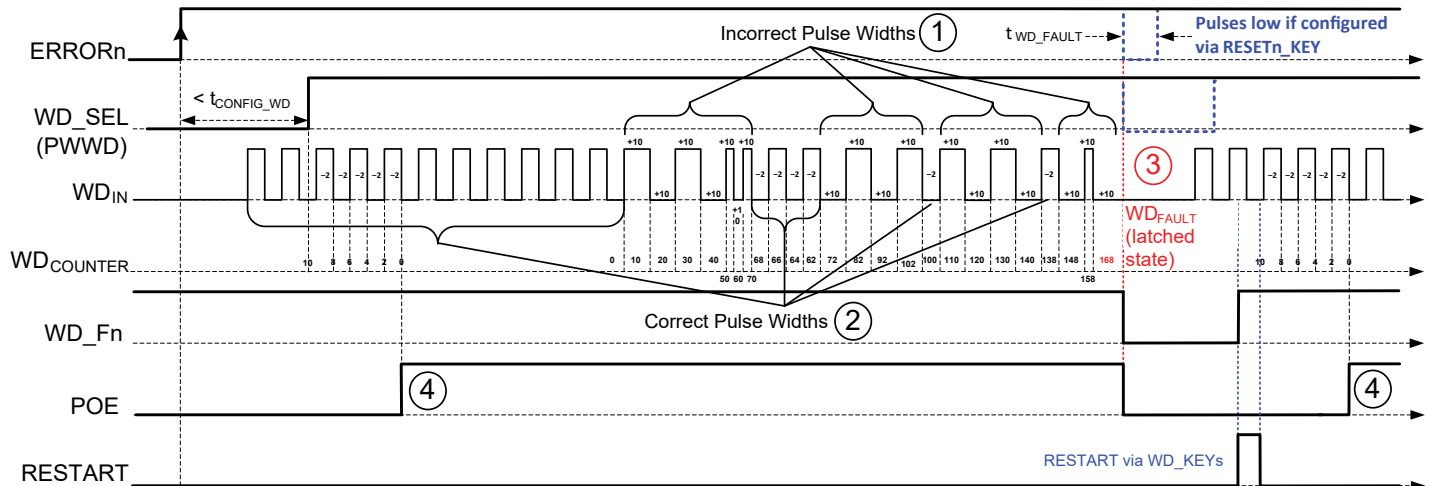
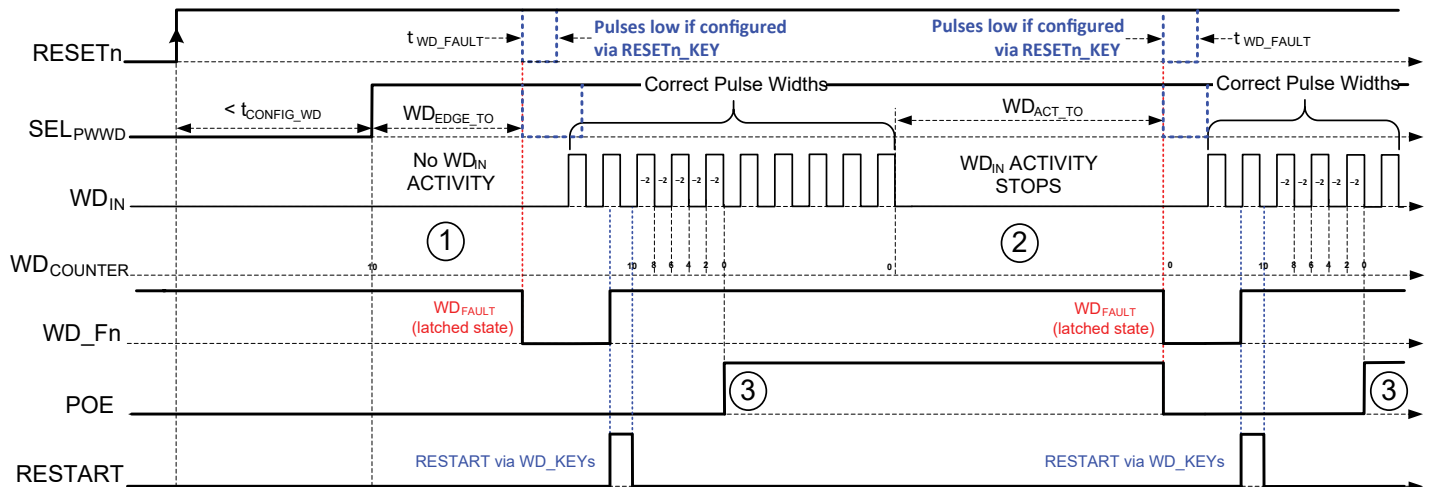

Figure 21: Watchdog (WD) operation with both correct and incorrect pulse widths
Figure 22: Watchdog operation with faults
The pulse width watchdog circuit monitors an external clock applied to the WD_IN pin. This clock should be generated by the primary microcontroller or DSP. The pulse-width window watchdog (PWWD) measures the time between two clock edges, either rising or falling. So the watchdog effectively measures both the high and low pulse widths, as shown in Figure 21. By default, the nominal WD_IN pulse width (PWWD_PW) is set to 1 ms, but can be modified to 0.5, 1.5, or 2 ms via SPI.
If an incorrect pulse width is detected, the watchdog increments its fault counter by 10 (default). If a correct pulse width is detected, the watchdog decrements its fault counter by 2 (default). If the watchdog fault counter exceeds 160 (default), then the POE pin transitions low. Operation of the PWWD is shown in Figure 21 and Figure 22. The increment value (PWWD_INC), decrement value (PWWD_DEC), and maximum fault count (PWWD_MAX) all have alternate values that can be accessed via SPI.
Clock pulses from the microcontroller must be applied to WD_IN pin before the watchdog is selected (via WD_SEL) or restarted (via the three-word WD_KEY command). The PWWD error counter can be preloaded to a value set by PWWD_POE_DLY (default of 2). Preloading the error counter forces the microcontroller to send valid pulses before POE transitions high, effectively prequalifying the performance of the microcontroller. Figure 21 and Figure 22 demonstrate prequalification with PWWD_POE_DLY set to a value of 10, which requires 5 valid clock pulses (–2 counts per valid clock pulse) before POE transitions high.
After moving into NORMAL operation, if no clock edges are detected at WD_IN for PWWD_EDGE_TO, the POE pin transitions low. By default, PWWD_EDGE_TO is 5 ms, but can be modified to 2.5, 10, or 15 ms via SPI. The edge timeout condition is shown as (1) in Figure 22.
While in the NORMAL state, if clock activity at WD_IN terminates for at least PWWD_ACT_TO, the POE pin transitions low. By default, PWWD_ACT_TO is 16 ms, but can be modified to 8, 24, or 32 ms via SPI. The loss of clock activity condition is shown as (2) in Figure 22.